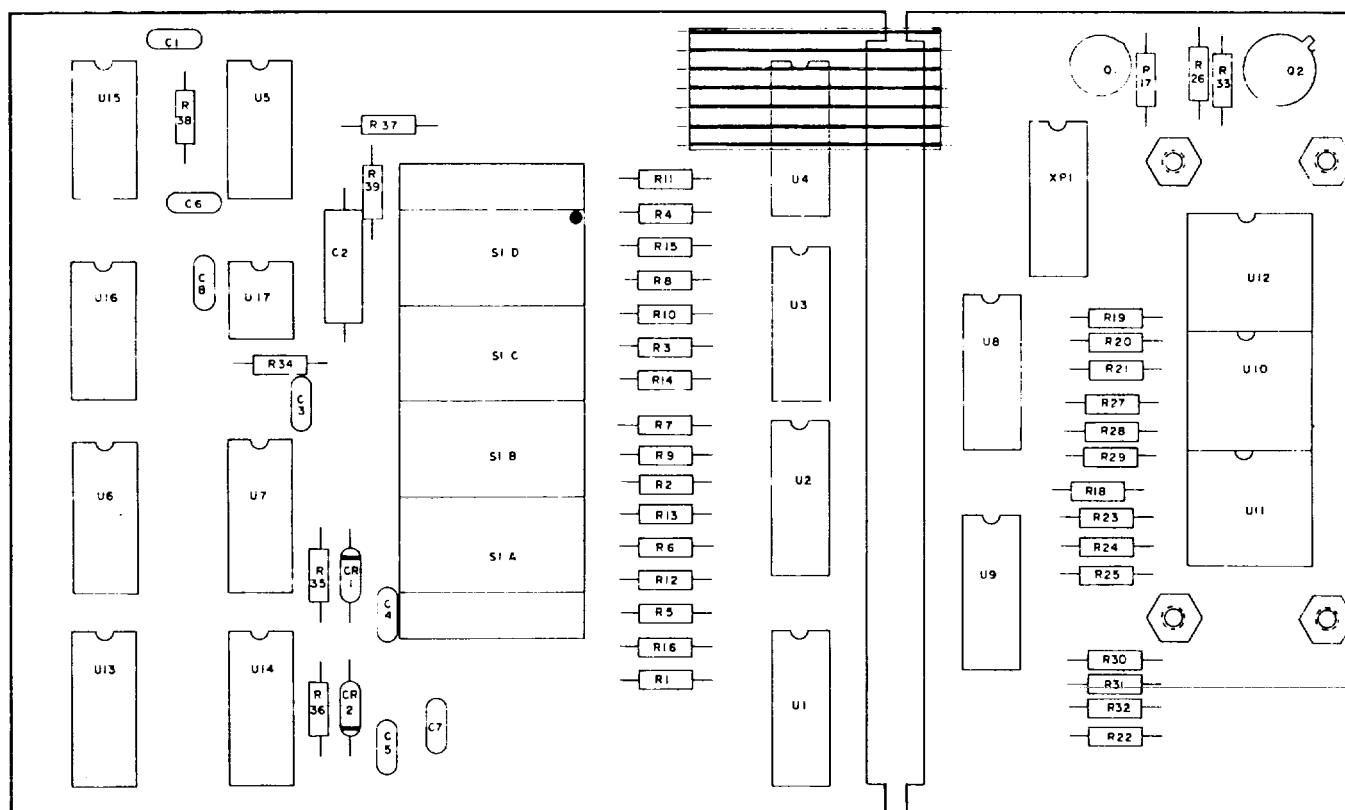

Figure 5-2. Reference Delay/Readout Circuit Card Assembly, 1A3A1 Parts Location Diagram
b. Reference Delay/Readout Circuit Card Assembly (1A3A1) Disassembly. This circuit card Assembly should be removed only when servicing or component replacement is required. To remove this circuit card perform the following steps. Further disassembly should be limited to removal of parts for repair or replacement Refer to figure 5-2 for location of component to be replaced.
(1) Loosen inside front panel.
(2) Remove eight screws, washers, electrical spacers and nuts holding the reference delay/readout circuit card assembly to the front panel.
(3) Disconnect the ribbon cable from the circuit card assembly.